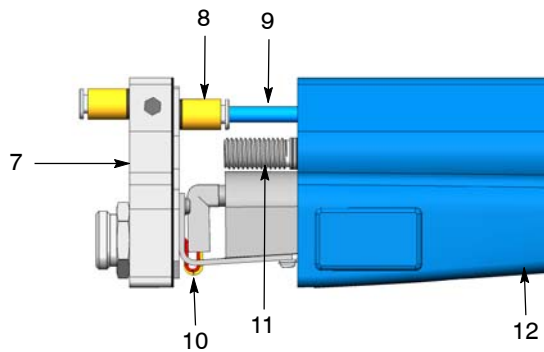

Figure 5 *Pulling the Heat Sink away from the Housing*
6. Screws (2)
7. See Figure 5. Pull the heat sink (7) away from the housing (12) just enough to disconnect the air tubing (9) from the connector (8).